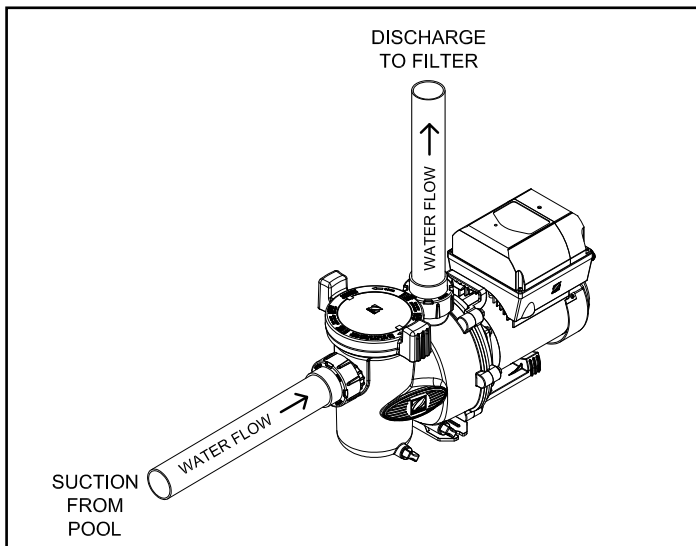

Figure 1. Flow Direction
The Zodiac ePump shall be installed with suction and discharge piping and direction of water flow as shown in Figure 1. Piping should be sized in accordance with sections 3.1.3.1 and 3.1.3.2 below.
As shown in Figures 1 and 2, the 4-position dip switch is located at the rear of the ePump. This dip switch serves two (2) functions: it selects the pump address, and it determines what type of controller will be used with the pump. The tables below show the dip switch settings.